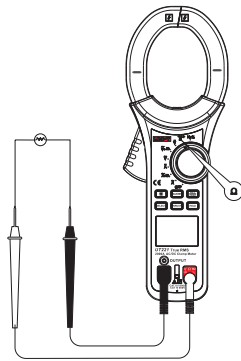

Figure 5
3. Resistance measurement () (See Figure 5)